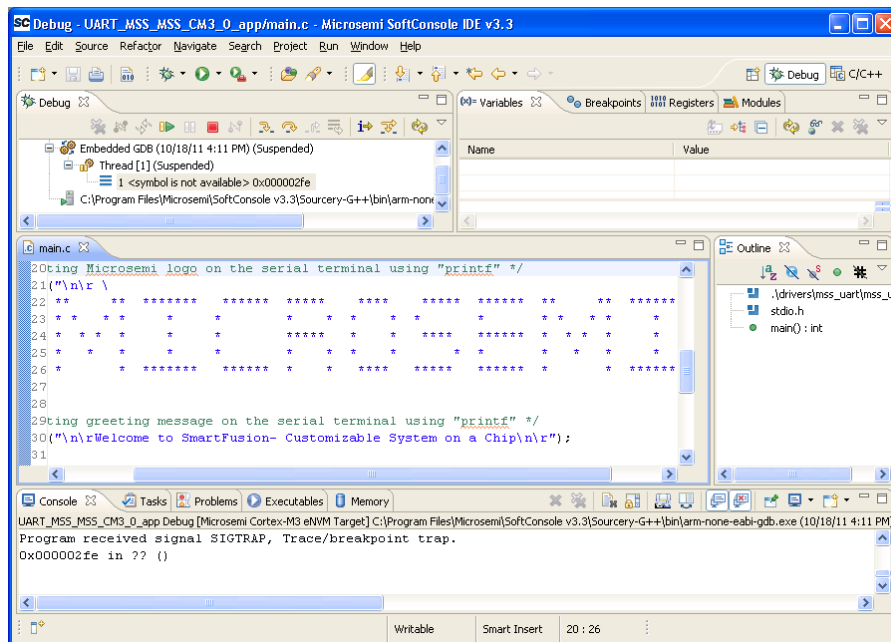

Figure 35 · The SoftConsole Debug Perspective
17. The SoftConsole Debug Perspective should now resemble Figure 35.